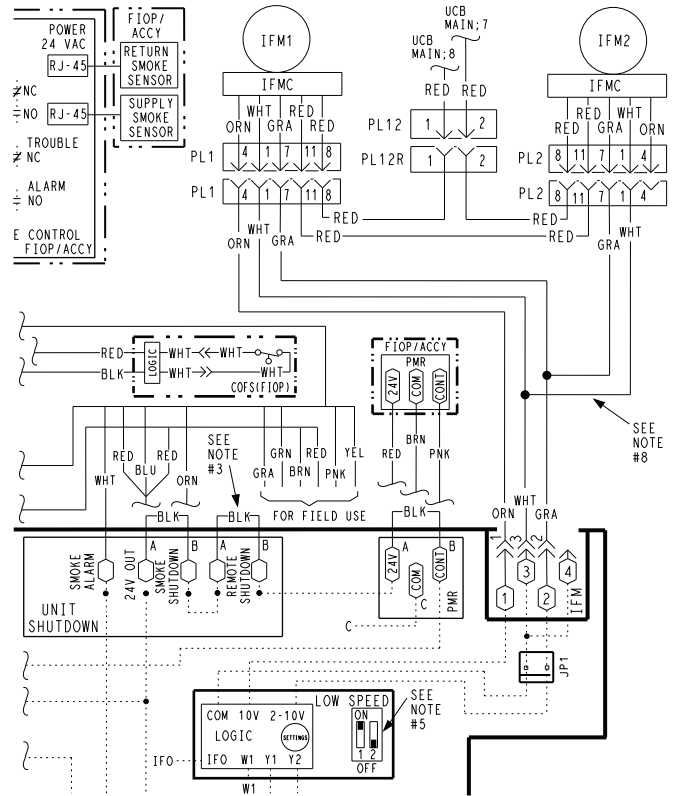

Fig. 10 — Supply Fan Control Wiring Diagram
8. Check for proper motor control voltage signal of 9.7 vdc to 10.3 vdc at IFM-1 and IFM-3 on Unit Control Board (UCB). See Fig. 10.